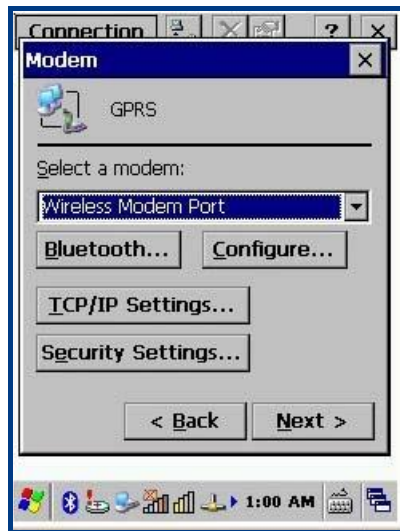

Figure 6.3: Modem
- C. Select “Wireless modem Port” in the field of "Select a mode" and tap “Configure...” (Figure 6.3).